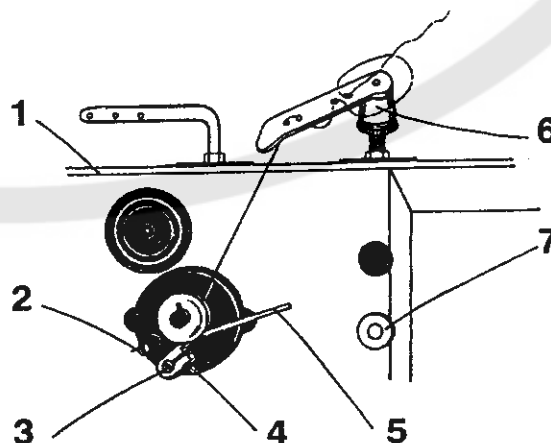

Figure 6
#### 9. To wind the hook bobbin (Fig. 6)
Adjust the zigzag stitch to the zero width and turn the hand wheel until the needle bar with the needle reaches its bottom position. In case of transverse deviation from the central needle position screw out the four attachment screws, remove the upper cover (1, Fig. 6), take the plug (7, Fig. 6) out of the machine arm, loosen the screw (29) located under the upper cover of the machine arm, insert a screwdriver into the hole created by the plug removal, adjust the angular position of the eccentric pin (32) so as to set the needle transversely to the slot centre, retighten the screw (29), insert the plug into its hole, and mount the upper cover. Check the needle punch position at the maximum stitch width and be sure that there is a play between the needle and the slot side in each lateral position of the needle. With zigzag stitch width adjusted at zero,
The tooth play of the zigzag stitch transmission mechanism is actuated by the eccentric pin (6, Fig. 11). To adjust the tooth play, first screw out the four attachment screws (2, Table 1), remove the upper cover (1, Fig. 6), and loosen the screw (4, Table 10) located in the lug of the machine arm. By turning then the eccentric pin (6, Fig. 11) adjust the tooth play of the zigzag transmission mechanism, i. e., between the complete cam (9, Table 10) and the gear wheel (13, Table 4) mounted on the upper shaft (1, Table 4), then lock the adjusted position by throughly tightening the screw (4, Table 10).